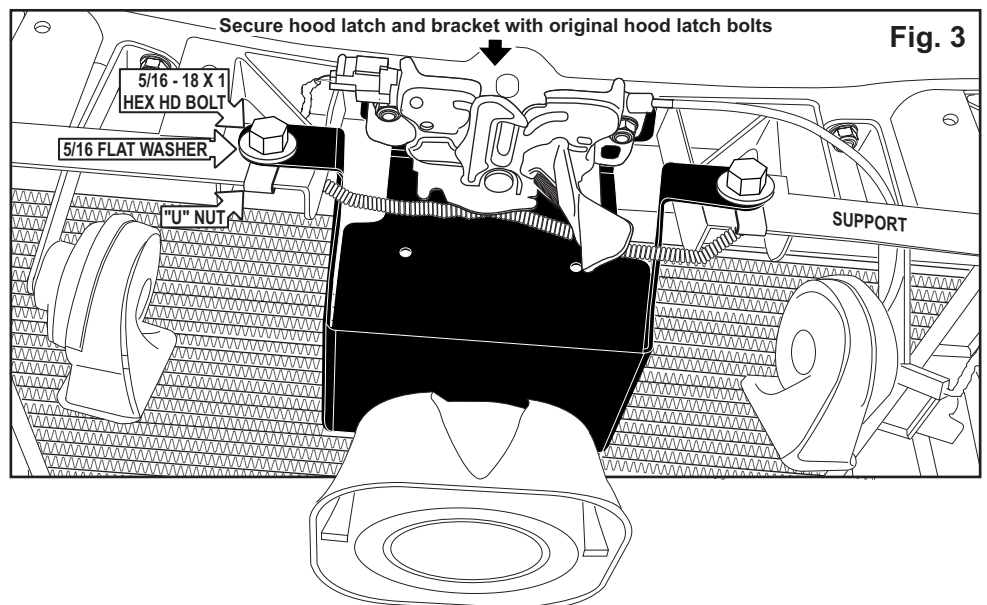

Fig. 3
5. Reattach the horn wire. Secure the front of the bracket to the vehicle using the supplied mounting hardware (Fig. 3).